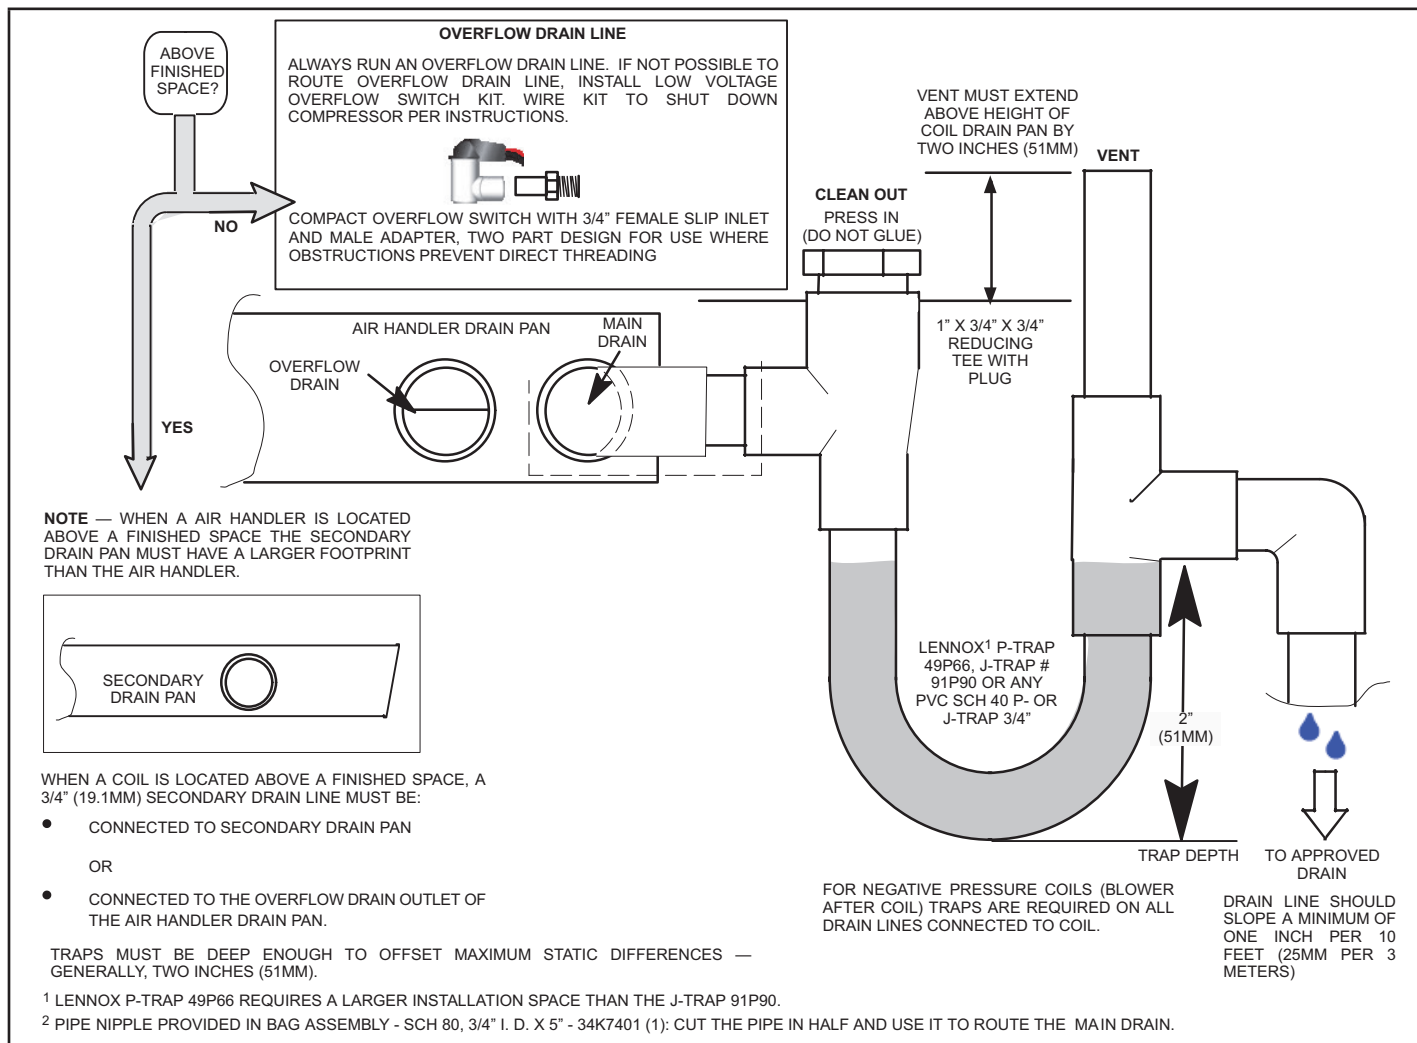

FIGURE 27. Typical Main and Overflow Drain Installations
Connect the main drain and route downward to drain line or sump. Do not connect drain to a closed waste system. See Figure 27 for typical drain trap configuration.
- 6 - Install a 2" trap in the main (primary) drain lines as close to the unit as practical (see figure 27). Make sure the top of the trap is below the connection to the drain pan to allow complete drainage of the pan.